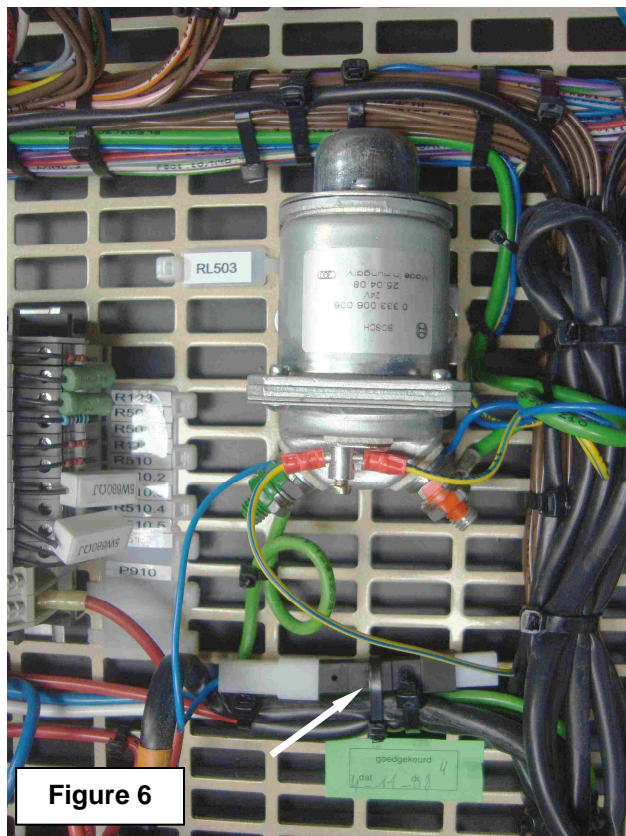

Figure 6
- 4) Attach the diode to the junction box grid with a cable tie as shown in Figure 6, overleaf. Close the junction box. Turn on the battery disconnect switch in the battery compartment.